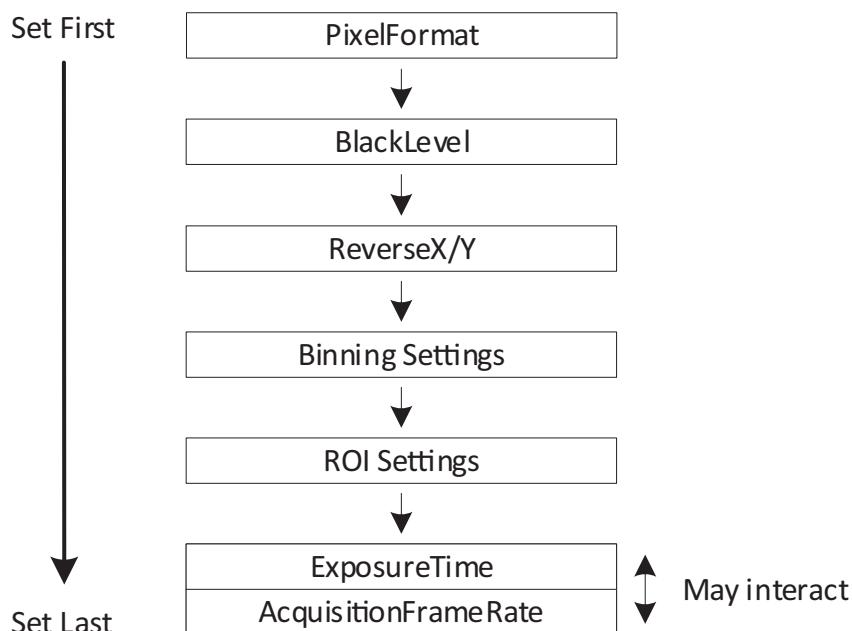

Figure 94: Interdependencies between controls
The conversion between time and clock cycles affects control values. Controls for pixel format, bandwidth, ROI, and exposure time are related to each other. Changing values for one control can change values for another control. For example, frame rates can be reduced when **MIPi Data Format** is changed subsequently. Figure 94 shows the interdependencies.
- To avoid readjustments, apply settings in the order shown in Figure 94.